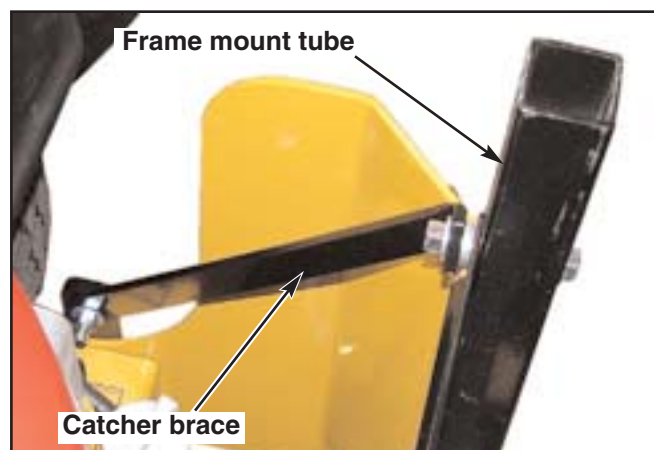

Figure 3-13
4. Attach the two catcher braces (Ref. # 17 and Ref. # 18) to the frame mount tube (Ref. # 27). Fig. 3-13